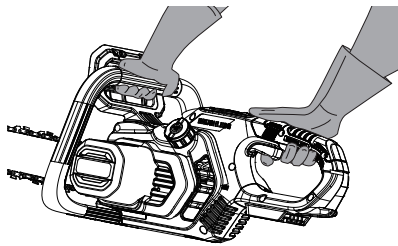

Fig. 18
1. Make sure the chain brake is disengaged. Disengage the chain brake by pulling the front safeguard (chain brake lever) (3) back towards the front handle (2).
2. Place the product on any suitable flat surface, make sure the saw chain (8) is not touching the surface or other objects.
3. Attach the battery pack (22).
4. Hold the product with left hand on the front handle (2) and right hand on the rear handle (1) (Fig. 18).